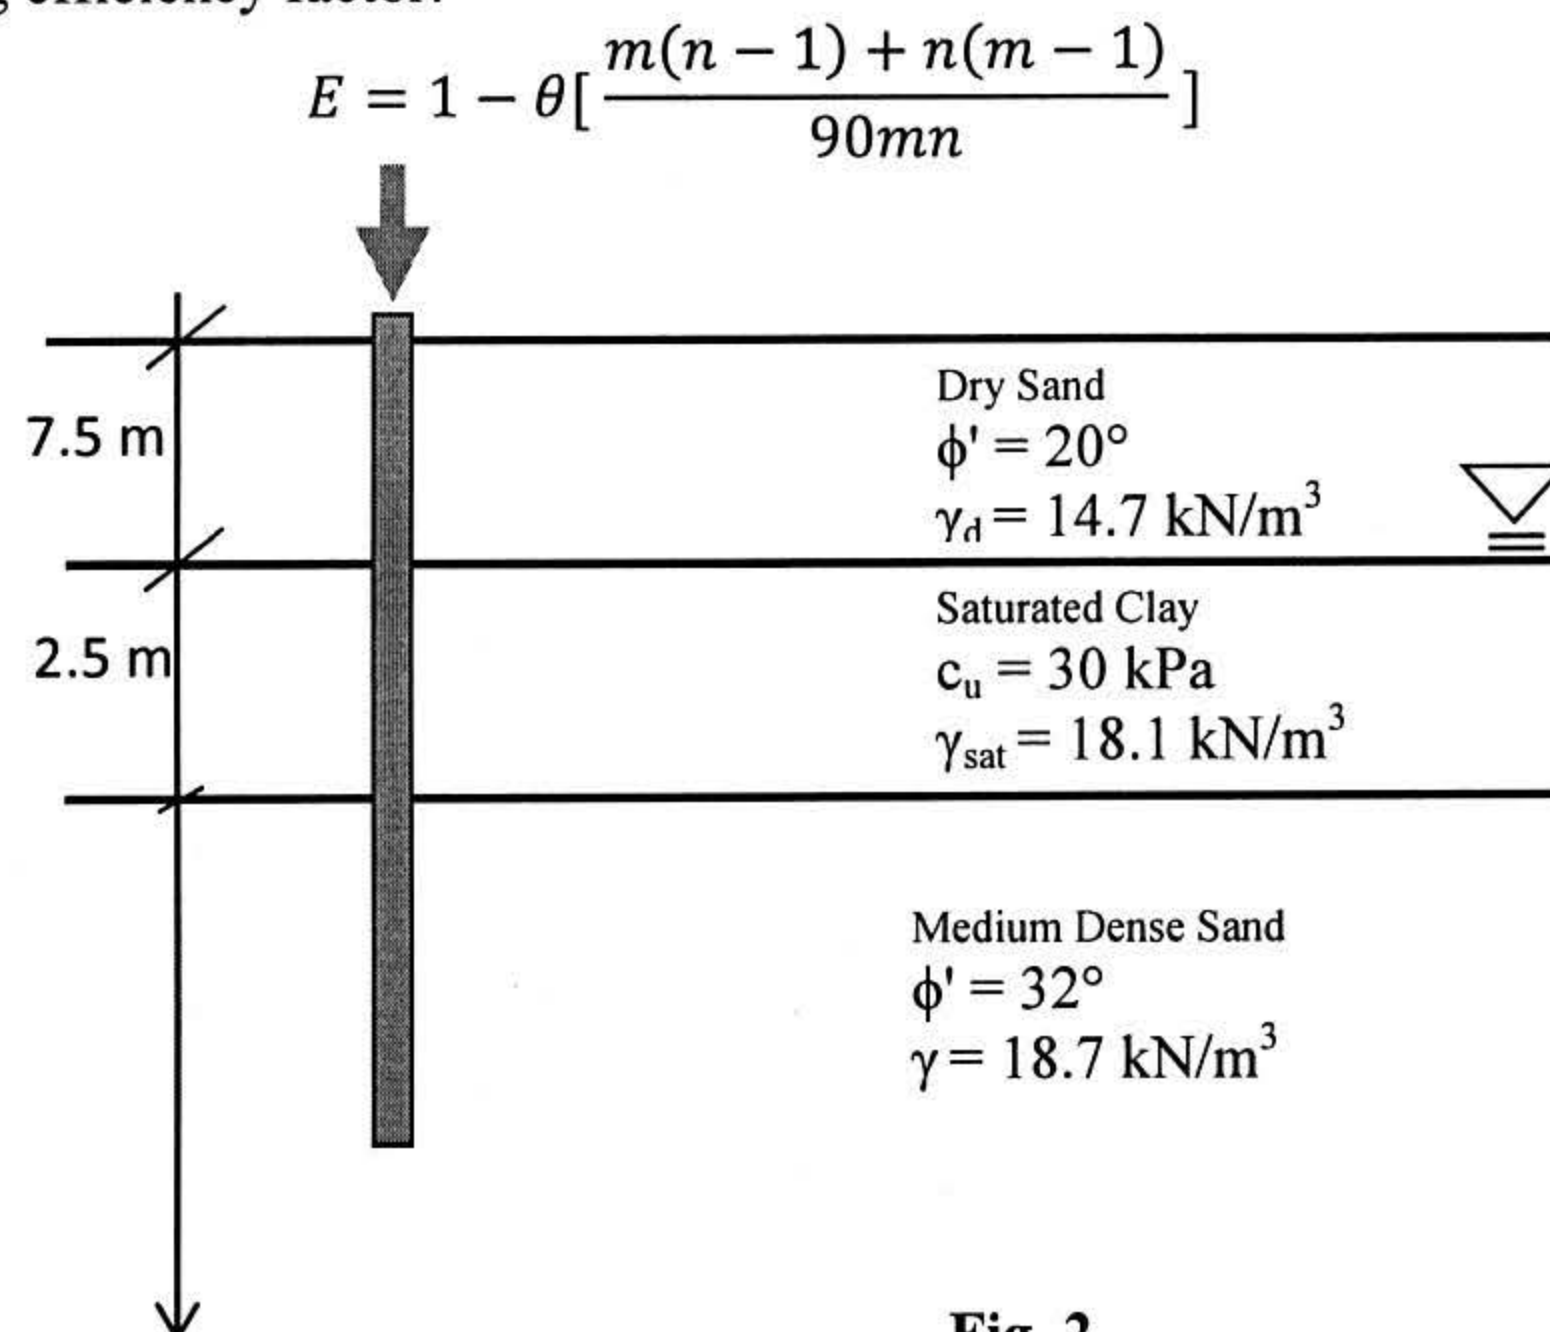

Fig. 2
- 3.(a) Determine the ultimate bearing capacity of the 750 mm diameter and 18 m long concrete, bored pile given in Fig.2. 15